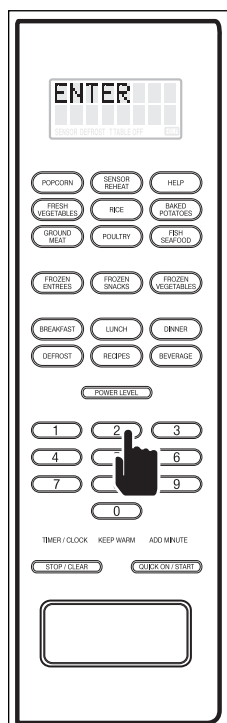

Figure 3-18.
2. Press the number 2 key and “ENTER - TIME OF DAY” will flash on the digital display (See Figure 3-18).